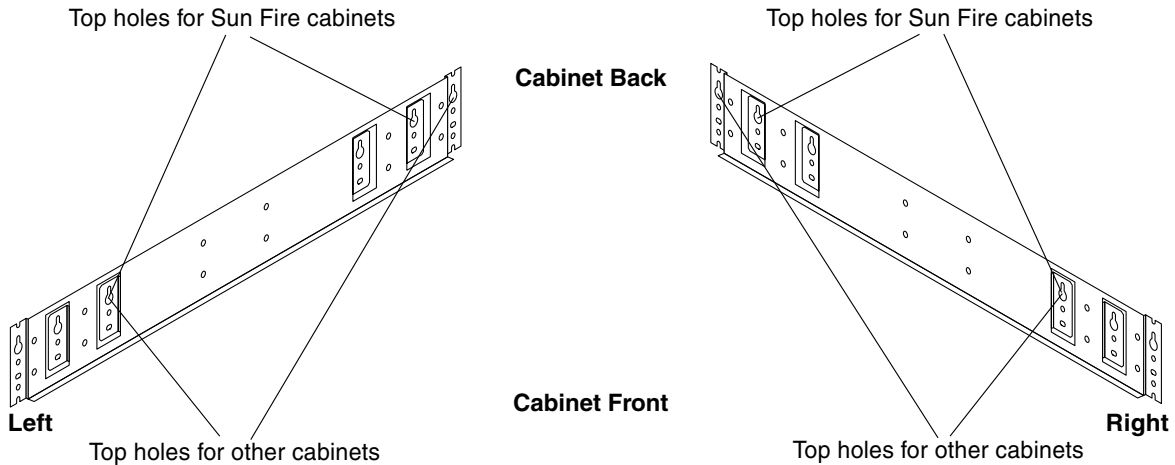

FIGURE 4 Top Holes for Securing the Mounting Bracket to the Cabinet
Insert the screws through the designated holes in the brackets shown in FIGURE 4 into the rail holes.
- b. Using the top holes designated for your cabinet in FIGURE 4, place the bracket on the screws.
FIGURE 4 shows the top holes to use for Sun Fire cabinets and the top holes to use for other cabinets.